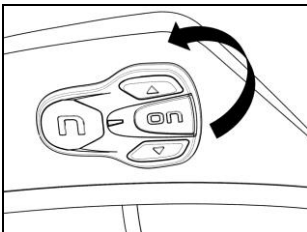

Fig. 40
- Remove the keypad from the helmet shell (Fig. 40).